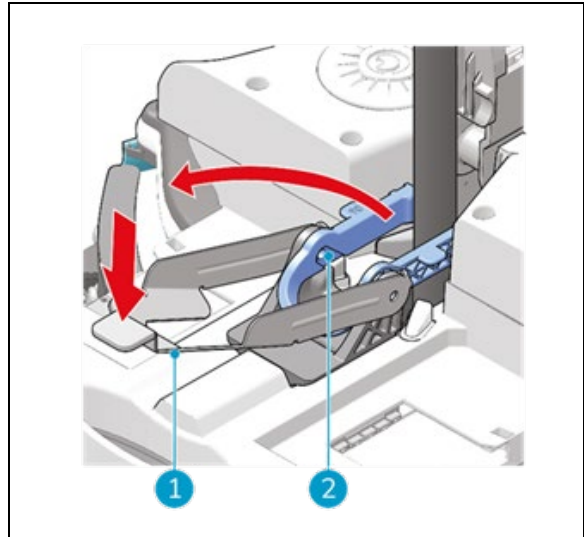

Figure 23
1. Push the bracket of the park support (Figure 23, pos 1) down to bring the drive support up (Figure 23, pos 2).